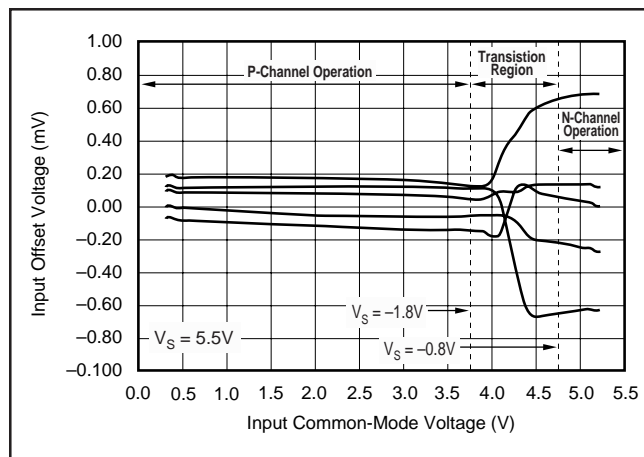
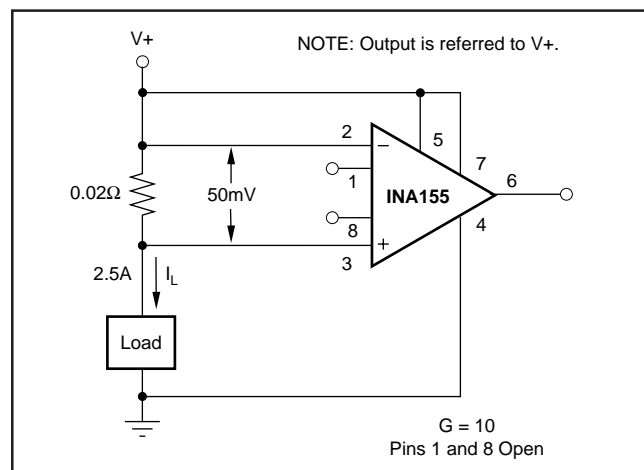

FIGURE 6. Input Offset Voltage Changes with Common-Mode Voltage.
FIGURE 7. Single-Supply, High-Side Current Monitor.
NOTES: (1) For further information, refer to typical performance curves on common-mode input range. (2) Operation beyond  $(V+) - 1.8V$  (max) results in reduced common-mode rejection. See discussion and Figure 6 in the text of this data sheet. (3) Does not include error and TCR of additional optional gain-setting resistor in series with  $R_G$ , if used.
The internal amplifiers have rail-to-rail input stages, achieved by using complementary n- and p-channel input pairs. The common-mode input voltage determines whether the p-channel or the n-channel input stage is operating. The transition between the input stages is gradual and occurs between  $(V+) - 1.8V$  to  $(V+) - 0.8V$ . Due to these characteristics operating the INA155 with input voltages within the transition region of  $(V+) - 1.8V$  to  $(V+) - 0.8V$  results in a shift in input offset voltage and reduced common-mode and power supply rejection performance. Typical patterns of the offset voltage change throughout the input common-mode range are illustrated in Figure 6. The INA155 can be operated below or above the transition region with excellent results. Figure 7 demonstrates the use of the INA155 in a single-supply, high-side current monitor. In this application, the INA155 is operated above the transition region.